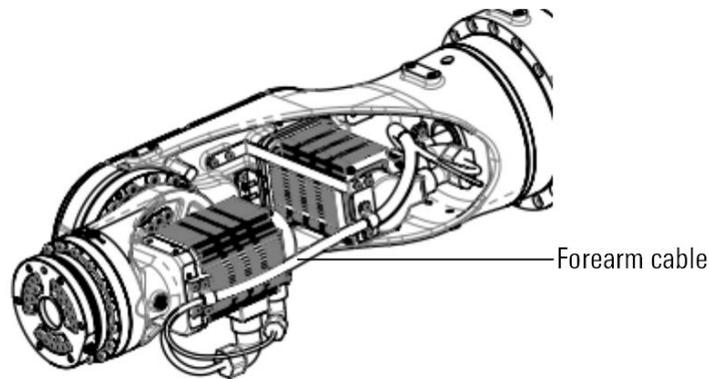
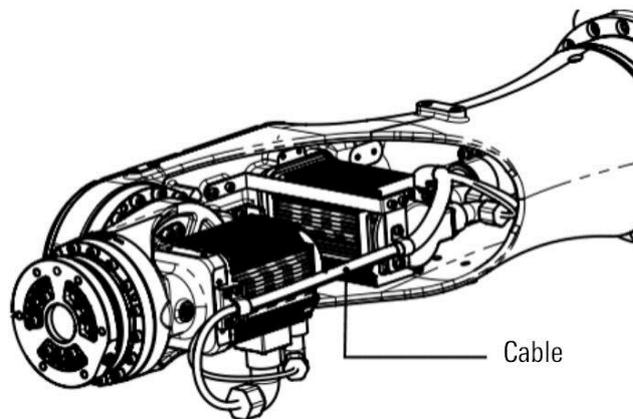

Figure 12-5 AIR280-2700/AIR130-2700/AIR170-2700/AIR220-2700 wrist internal cable
Figure 12-6 AIR220-3100/AIR130-3100/AIR170-3100 wrist internal cable
- Step1. Remove the cover plate, as shown in Figure 12-5 and Figure 12-6.